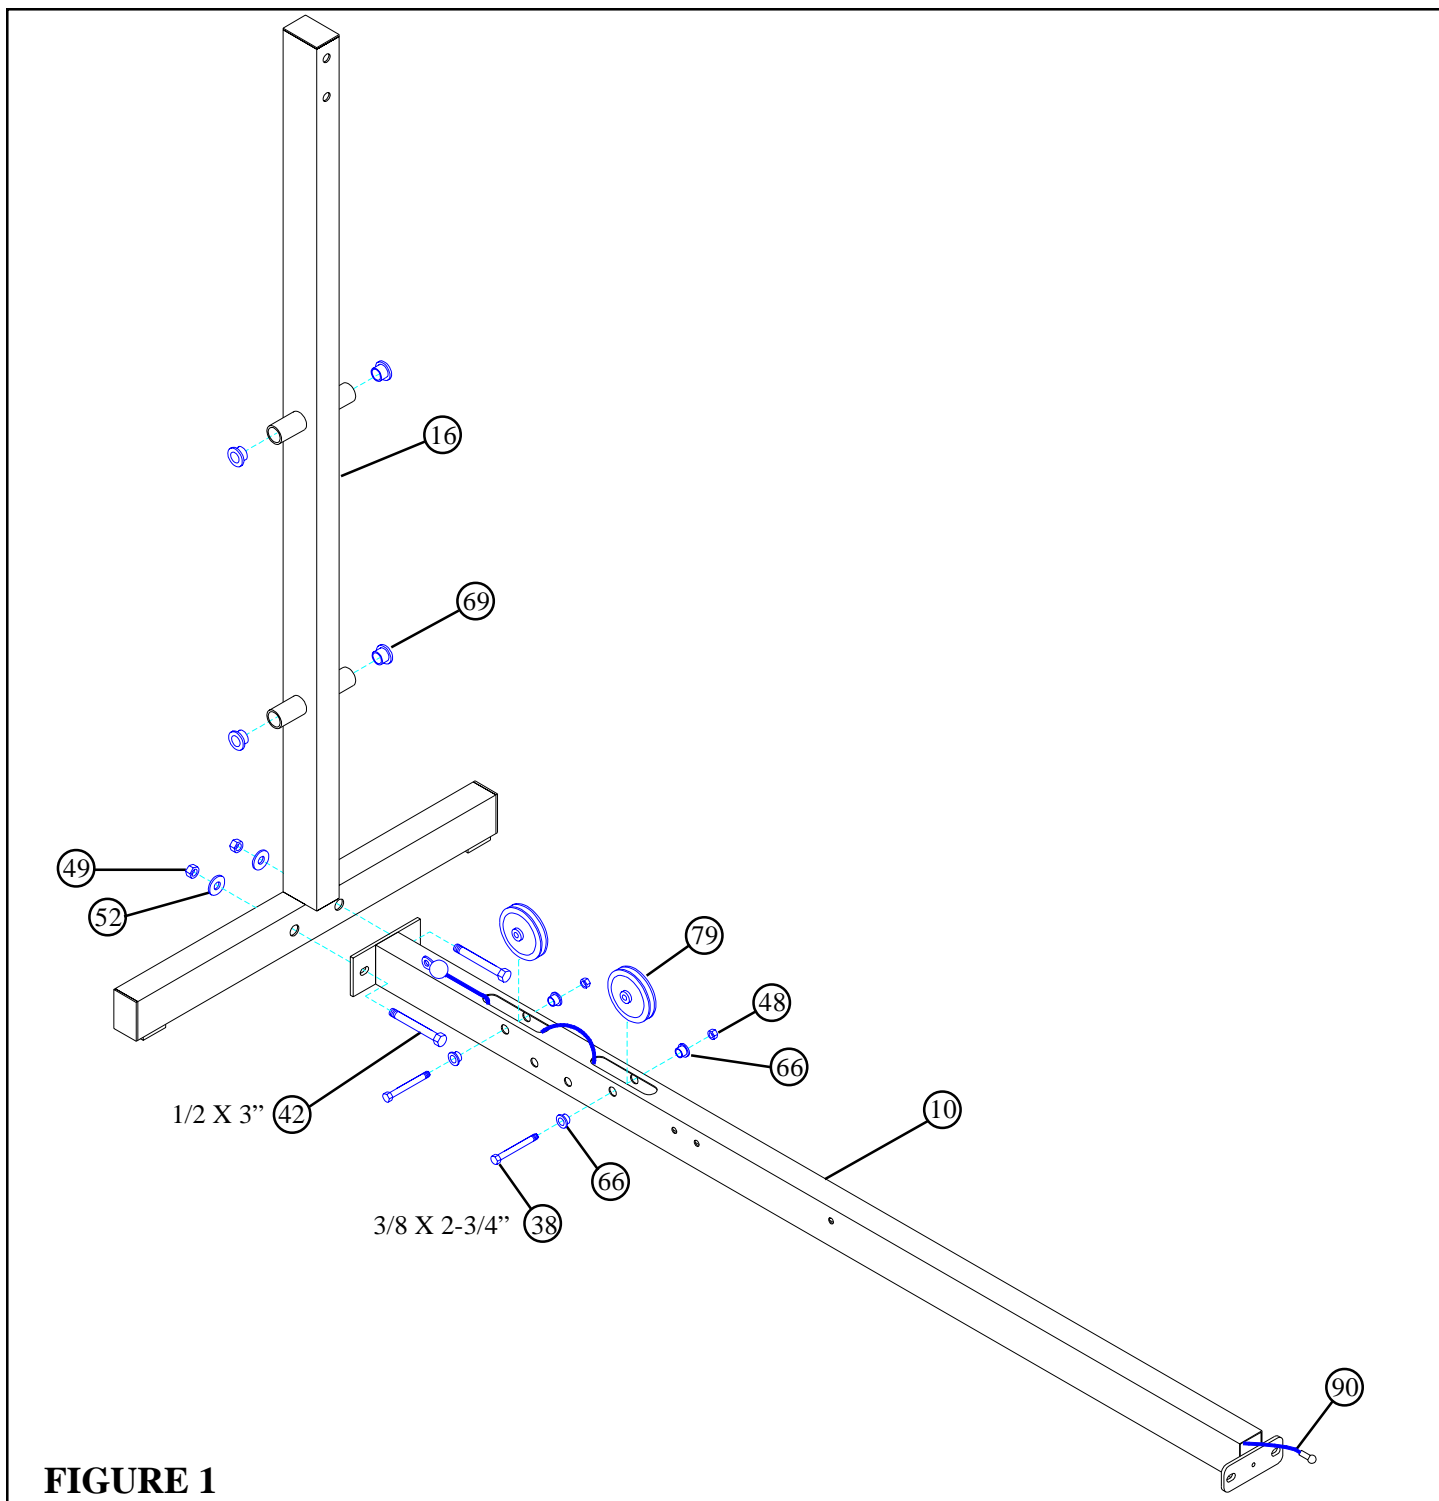

FIGURE 1
- Securely assemble REAR UPRIGHT (16) to BASE (10) using two 1/2 X 3" BOLTS (42), two 1/2" WASHERS (52), and two 1/2" LOCKNUTS (49).
- Slide LEG EXT. CABLE ASSEMBLY (90) through openings in BASE (10) as shown in FIGURE 1.
- Securely assemble two 3-1/2" PULLEYS (79) into BASE (10) using two 3/8 X 2-3/4" BOLTS (38), four 3/8" FLANGE SPACERS (66), and two 3/8" LOCKNUTS (48). (**NOTE: Make sure LEG EXT. CABLE ASSEMBLY (90) is routed under PULLEYS and BOLTS.**)
- Slide LEG EXT. CABLE ASSEMBLY (90) through the opening in the end of the BASE (10) as shown in FIGURE 1.
- Insert four 3/4" FLANGE BEARINGS (69) into tubes on REAR UPRIGHT (16) as shown in FIGURE 1